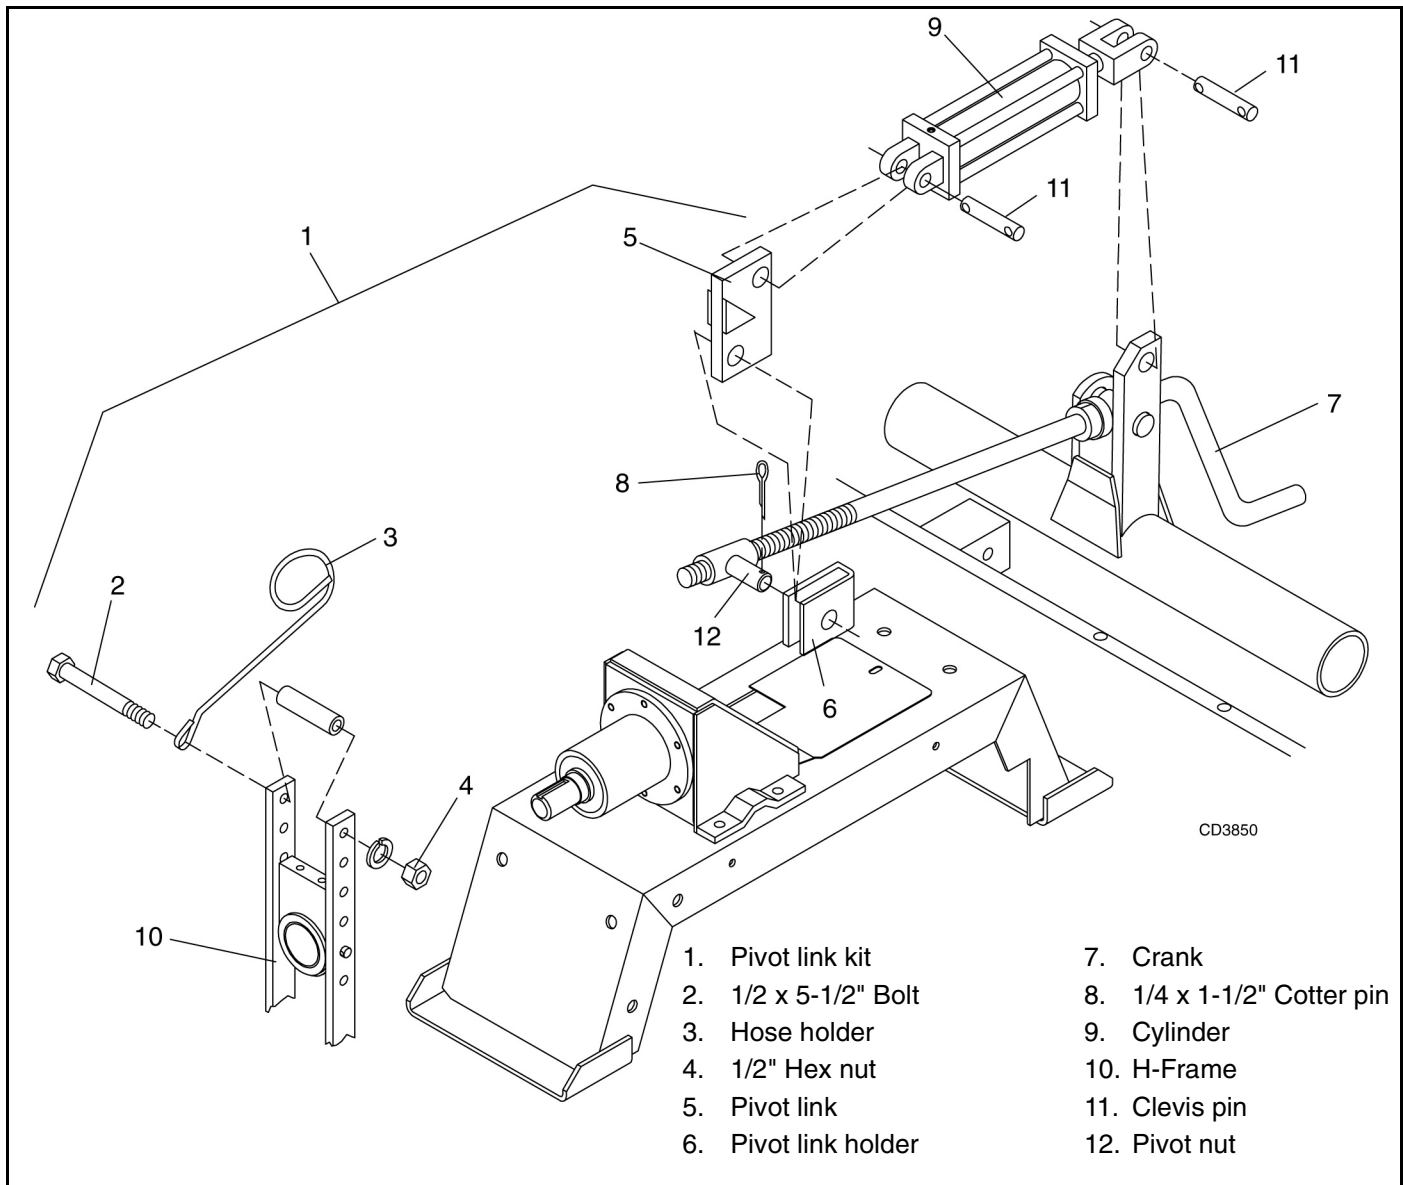

Figure 25. Optional Hydraulic Lift Assembly
Remove the crank (7) from pivot link holder (6), insert pivot link (5) into pivot link holder (6), then install the crank and cotter pin (8), see Figure 25.